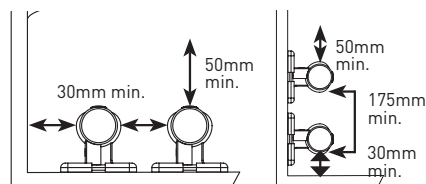

Fig.8
- Minimum clearances as shown in [Fig.8] must be observed when the heater is in use.